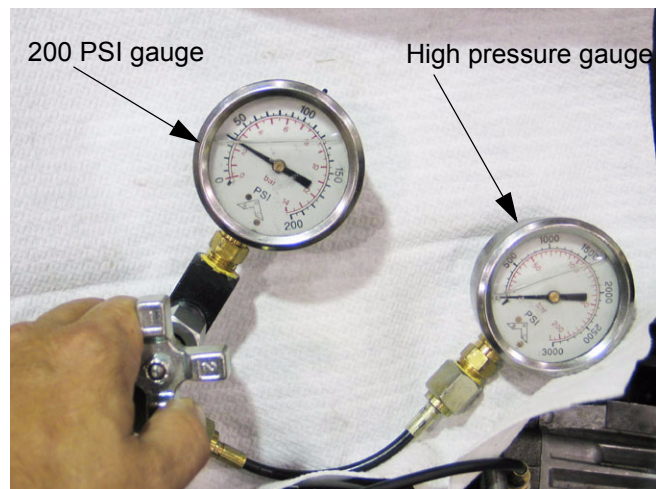

Figure 5.8
- 5.8. The charge pressure should read at least 30 PSI (2.07 Bars) @ 1,200 RPM. See Figure 5.8.